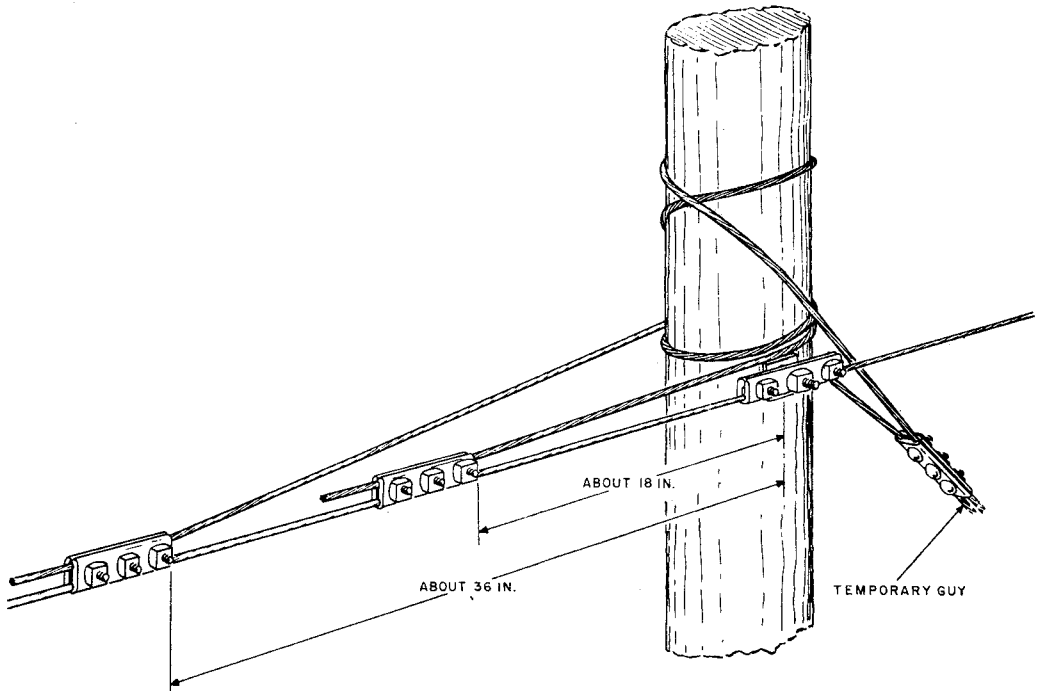

Fig. 3—False Deadend (Temporary)
2.02 A temporary false deadend for holding suspension strand is illustrated in Fig. 3. This method is not suitable for use with 25M strand.